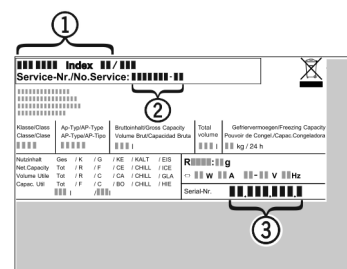

Fig. 35
- ▶ Read the appliance designation *Fig. 35 (1)*, service No. *Fig. 35 (2)* and serial No. *Fig. 35 (3)* off the model plate located inside the appliance on the left-hand side.
- ▶ Notify the customer service, specifying the fault, appliance designation *Fig. 35 (1)*, service No. *Fig. 35 (2)* and serial No. *Fig. 35 (3)*.